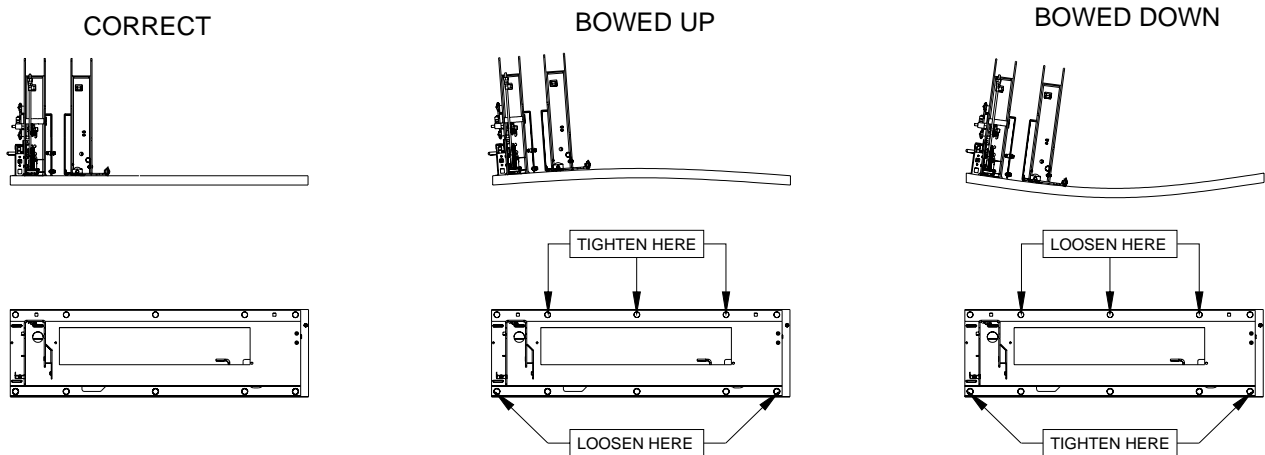

FIGURE 2-3: DISTORTED BASEPLATE
- ◆ Refer to **Figures 2-3**. Improper torquing sequence of baseplate bolts may result in a warped or bowed baseplate, which can cause the platform to move erratically.